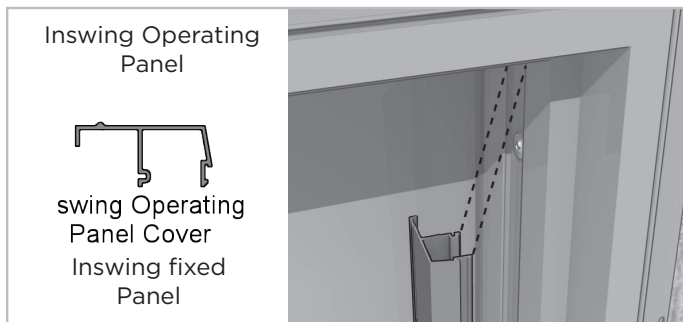

Figure 15
**1o) (Required- Inswing Doors Only)** The packaged hardware included with the door includes clad cover panels. There are different profiles for the operating panel covers and stationary panel covers. (figure 15) The panels snap into grooves and cover the installation screws. Make sure to verify how the panels overlap at the corners, then gently tap the covers into the grooves.